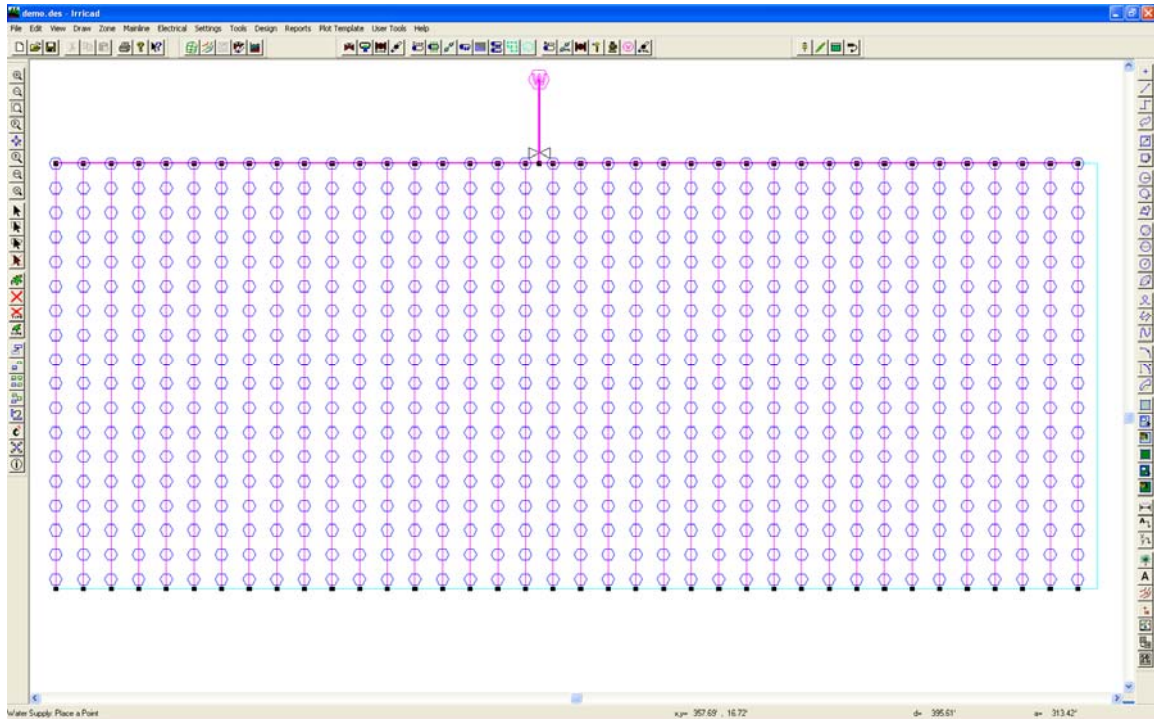

Figure SM 5
18. Select *Mainline|Water Supply*. Connect to the junction on the left end of the mainline pipe. Accept the default name of Supply No. 1. Do not enter any flow or pressure requirements (IRRICAD will assume that the water supply is unrestricted and will determine these requirements during design and analysis). Click **[OK]**. Select *File|Save* and save the design as demo.des. Your design should look like Figure SM 5. This completes the entry of the hydraulic components of the design.